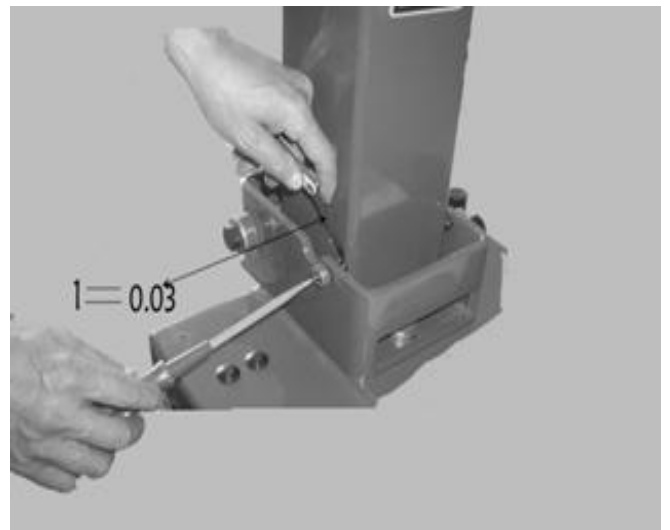

Fig4-10
4.2.13 Adjust the position screw on the two sides of the column: Loosen the nuts on the two sides and adjust the gap between the head of the screw and the side of the column to make it to be 0.03mm (Fig4-10) and then lock the nut.